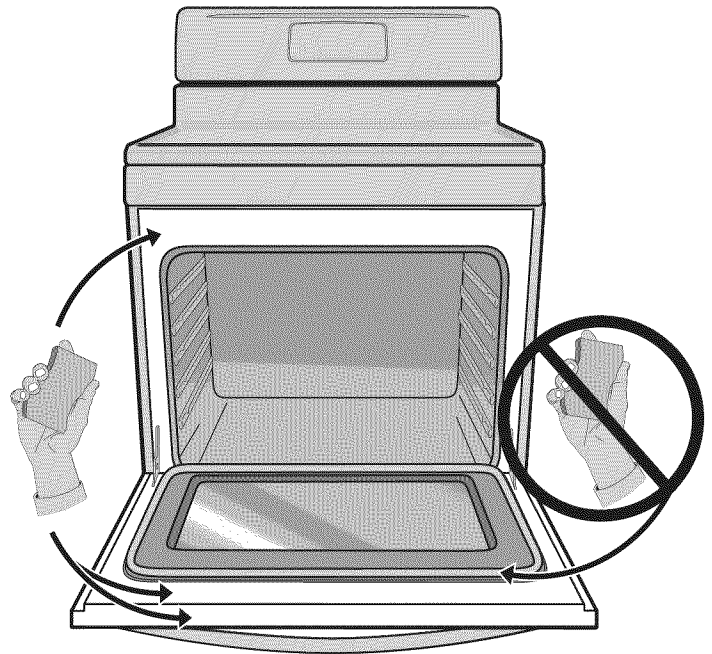

Fig. 1
- Clean any soil from the oven frame, the door liner outside the oven door gasket and the small area at the front center of the oven bottom. These areas heat sufficiently to burn soil on. Clean with soap and water. These areas are shown in white (See Fig. 1).